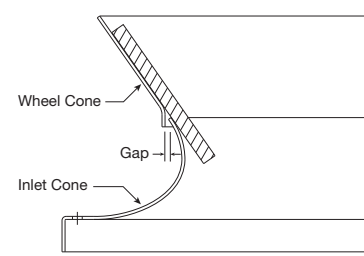

Fig. 10
3. Ensure proper wheel settings for radial gap and alignment. See Fig. 10 on page 4.
3. Rotate the fan wheel by hand and assure no parts are rubbing. The wheel should rotate freely and be aligned as shown in Fig. 10. Wheel position is preset and the unit is tested at the factory. Movement may occur during shipment, and realignment may be necessary.
If necessary, adjust wheel position by loosening the wheel hub from the fan shaft so that a straight edge held tight to the wheel cone just touches the inlet cone. Refer to Fig. 10.